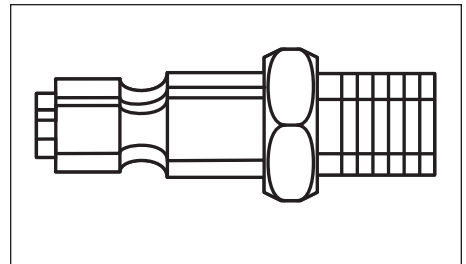

Figure 7 - Quick Plug
**QUICK PLUG** — A quick plug is designed to work in combination with a quick coupler to quickly and easily join a pneumatic tool to an air hose (see Figure 7).